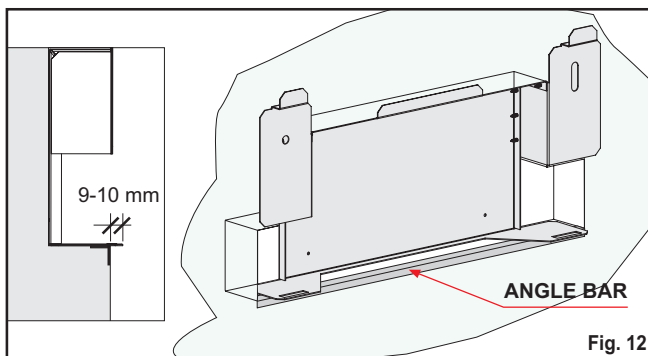

Fig. 12
- 2) Cover the bottom edge of the niche with a steel angle bar (NOT supplied). Apply the mounting plate and fix it using four screws and four screw anchors in the relative holes (fig. 12).